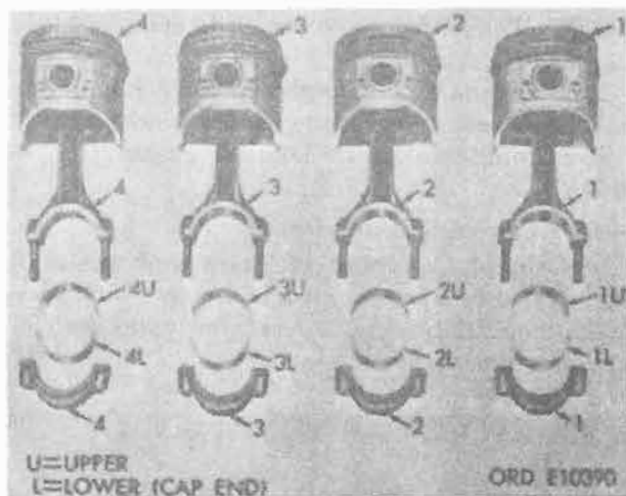

Figure 4-97. Marking connecting rod and piston assemblies.
(2) Turn crankshaft as required and remove three additional pistons and connecting rod assemblies in the same manner.
f. Mark Connecting Rod and Piston Assemblies. Keep original assemblies together (fig. 4-97).